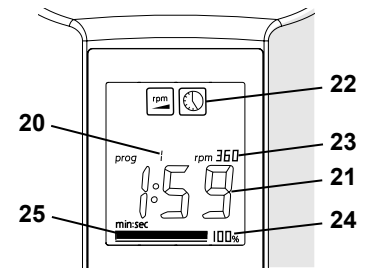
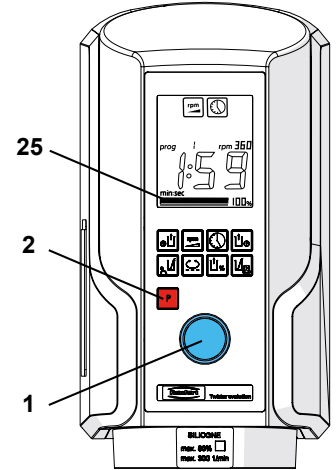

Fig. 7
Fig. 8
- ⇒ Press the programming key, „P“ (2).
- ⇒ Select the desired program by turning the control knob (1).
- ◆ The following will be shown from the selected programme (Fig. 7):
- ⇒ Couple the mixing bowl (15) to the device.
- ⇒ Do not let go until the bowl stays in place alone and vacuum level bar has passed the halfway mark (25, Fig. 8)!